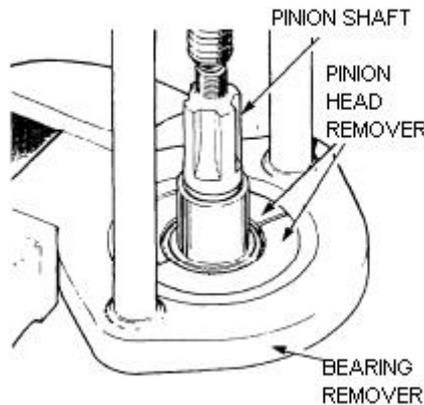

Figure 235 Pinion Shaft Inner Bearing Cone Removal
- g. Using the bearing remover and the pinion head remover (Table 3, Serial 38 and 60), remove the pinion shaft inner bearing cone (Figure 235).